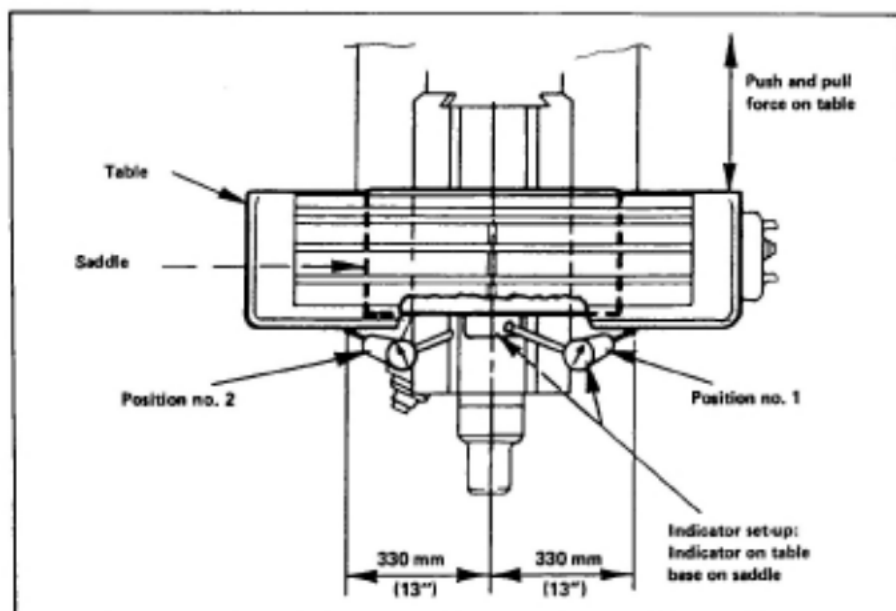

Figure 7.1 Saddle to table gib setting
Saddle to table gib setting (see Figure 7-1)
- iii) Align the dial gauge along the axis to be checked as shown in Figure 7-1 or 7-2.